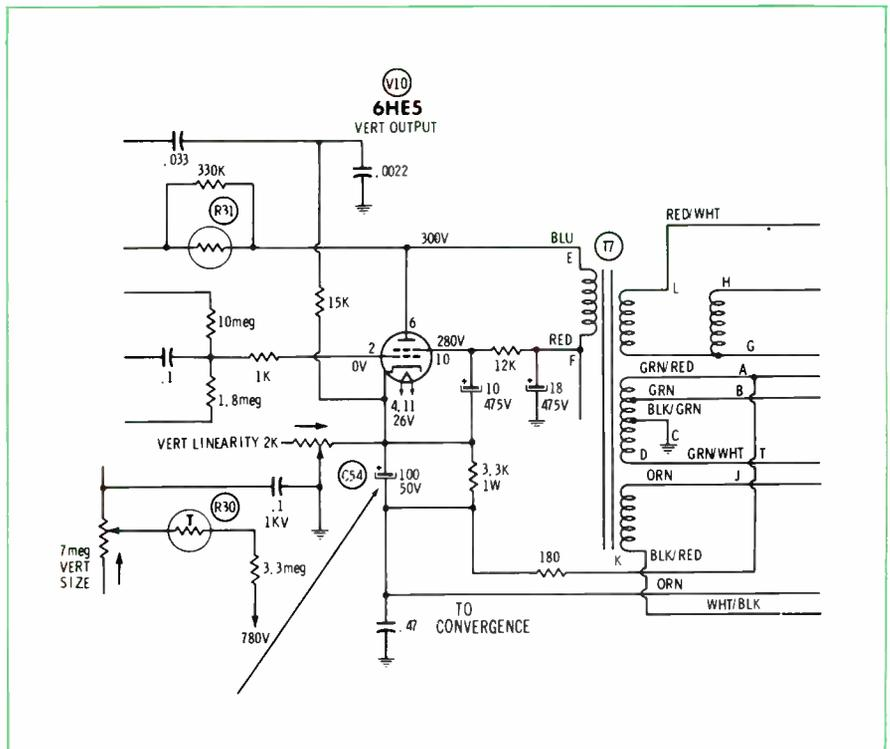

Fig. 2 Schematic of the vertical-output stage in Zenith 20X1C38 color chassis.
Fig. 2 Secondary regulation of high voltage and horizontal sweep is the function of the components in the screen-grid circuit of V402. Also, a thermal fuse is used in the cathode return. (A) The circuit supplying the screen grid prevents the screen-grid voltage from rising above +130 volts, although it permits the screen-grid voltage to decrease below +130 volts when the screen current is excessive. Also, de-generation, because the screen bypass capacitance is only .01 mfd, reduces the width and high voltage, when the screen voltage is not clamped. (B) This is the same screen grid circuit in (A), but redrawn to make the action more clear.